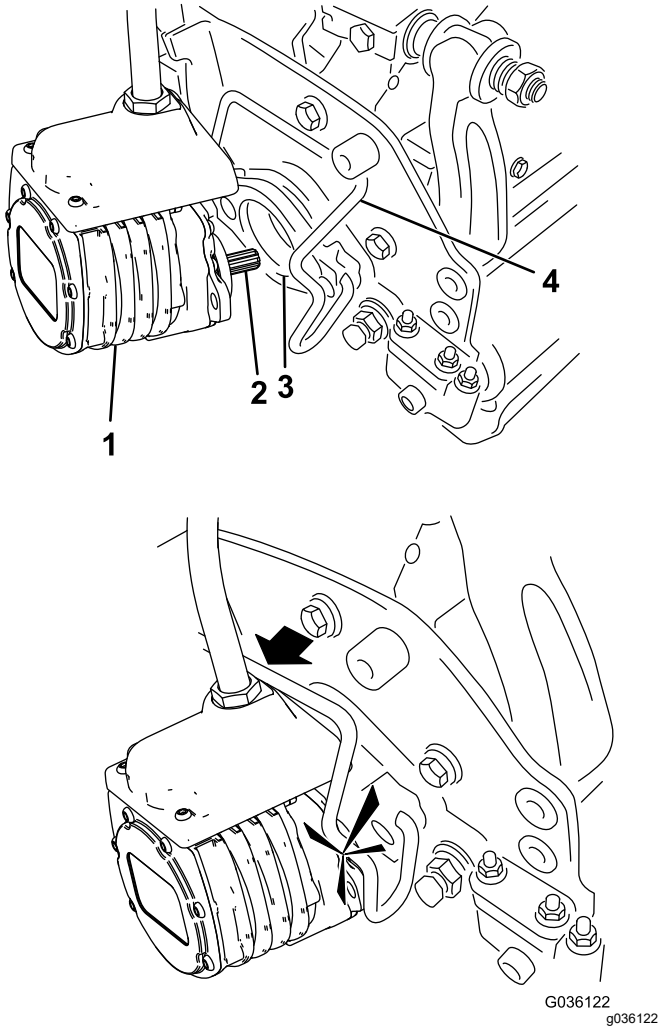

Figure 65
6. Coat the spline shaft of the cutting unit motor with clean grease (Figure 65).
7. Insert the motor into the left side of the cutting unit (as viewed from the operator's position) and pull the motor retaining bar on the cutting unit toward the motor until you hear a click from both sides of the motor (Figure 65).